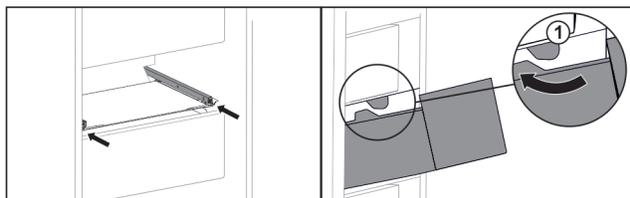

Fig. 122
- ▶ Guide drawer around the stoppers *Fig. 122 (1)*.